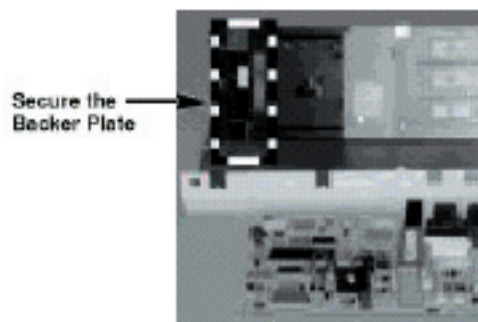

Fig. 4-5 (Left Side)
9. Secure the side backer plates to the console support (Fig. 4-5 and 4-6) so that the proper distance between the membrane switch and the console is maintained. Failure to insure the proper installation of these backer plates will result in the washer not accepting commands.